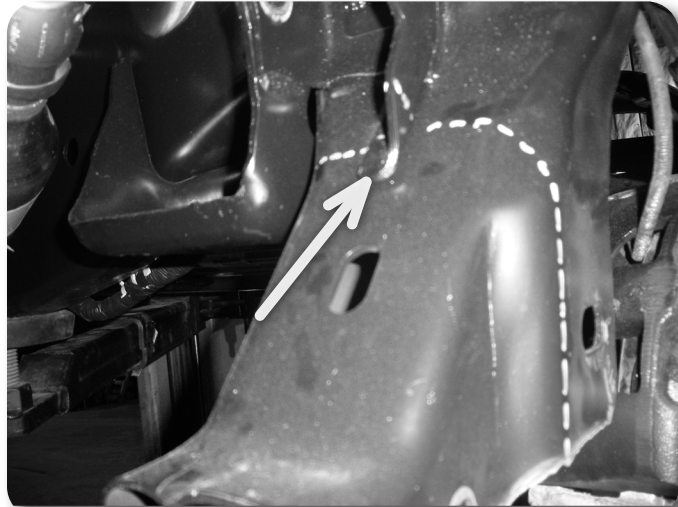

Figure 15
26. On the inside face Figure 15 measure up 3/4" from the bottom of the original differential mount bracket. Draw a horizontal line to the front and rear face cut lines. Cut this area from the vehicle.